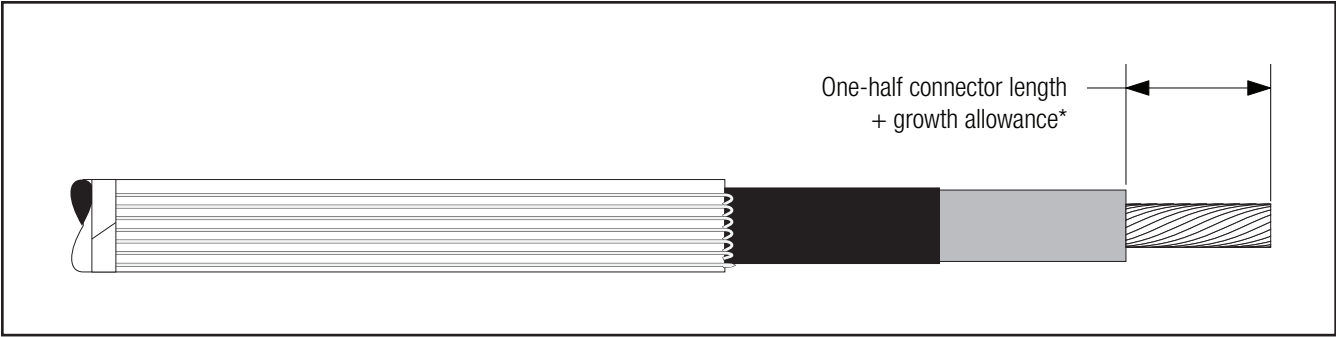

Figure 10
3.3 If using a crimp type connector, remove cable insulation for 1/2 connector length plus an allowance* for increases in connector length due to crimping. Insulation removal length shall not exceed 2 7/8" (73 mm) from conductor end. **Do not install connector now** (Figure 10).